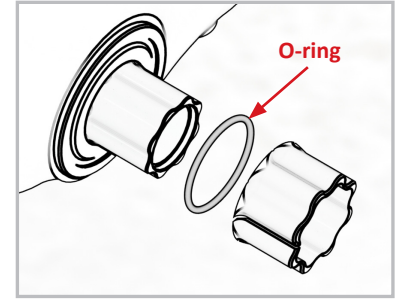

FIG. 1
- Install the $\varnothing 22 \times 3\text{mm}$ o-ring on the non-drive side before adding the crank reducer (Fig. 1).